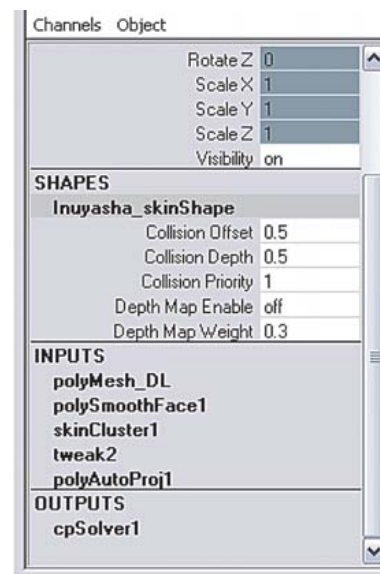

Figure 1.14: Collision Object attributes. The output goes to the **cpSolver1** node.
2. Look under the shape node in the Channel box. You should see several collision-related attributes, as in Figure 1.14. Set **Collision Offset** and **Collision Depth** to 0.5. These values tell the cloth solver how much distance to keep between the garment and the collision object. Measured in centimeters, 0.5 is enough of a buffer to prevent the collision object from poking through the skirt but is small enough to keep it from looking puffed out around the collision model.